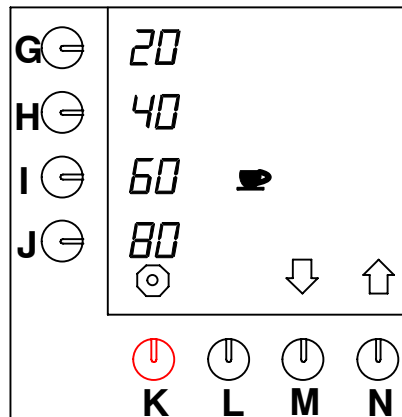

Fig. 35 Adjusting pre-programmed selection keys for cups
- Press selection key (N.)↑ until fig.35 appears on the display.